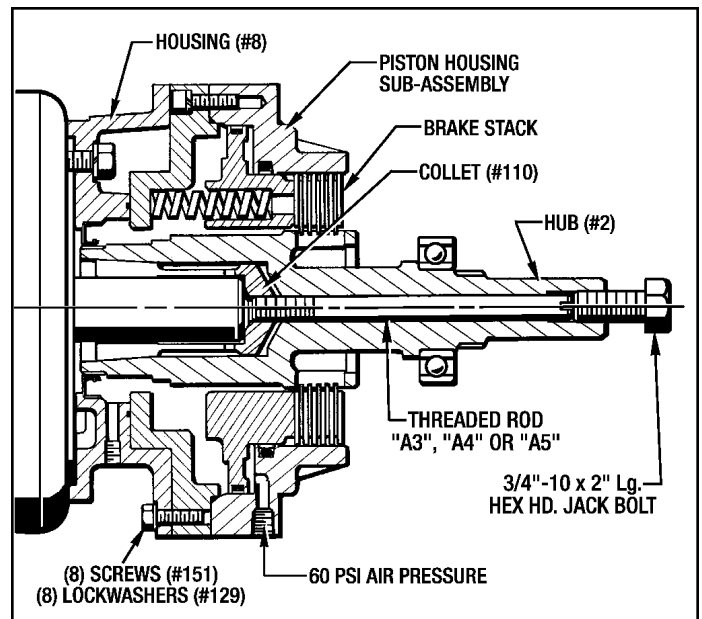

Figure 3.7 - Installing Piston Assembly & Brake Stack
12. Apply 60 PSI air pressure to the brake port as shown in *Figure 3.7*.
**NOTE -** The brake stack configuration shown on *Figure 3.7* is only an example. Your brake stack may be different as determined by your torque requirements.
15. Install the End Housing (#9) to the Piston Housing (#10) with (8) Screws (#72) and (8) Lockwashers (#128) and finalize the Position Alignment of the Hub (#2) with the **Same Procedure as described in Section 9-10 & 9-11.**